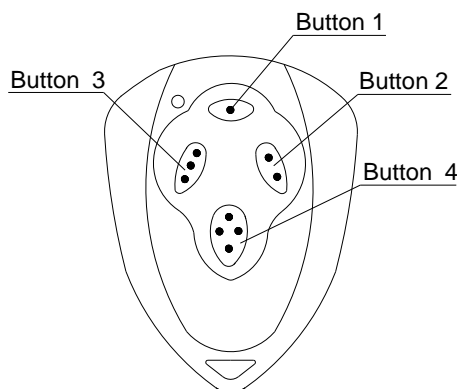

Fig.10 Remote control
- Remote control: The remote control works in a single channel mode. It has four buttons. See Fig.10 Remote control. The function of button 1, button 2 and button 3 are the same. With each press of the remote control button, which has been programmed, the gate will close, stop, open or stop cycle. Button 4 is available to set pedestrian mode. You can program/learn button 1, button 2, button 3 individually. You also can program/learn two buttons or three buttons together, but you need repeat the program/learn process if you want to use more than one button.